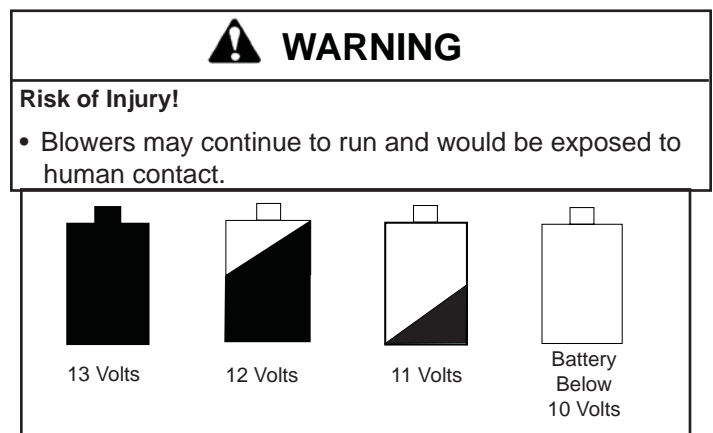

Figure 21.3
- A battery icon appears on your wall control to let you know you are now operating on battery power. **Figure 21.3.**